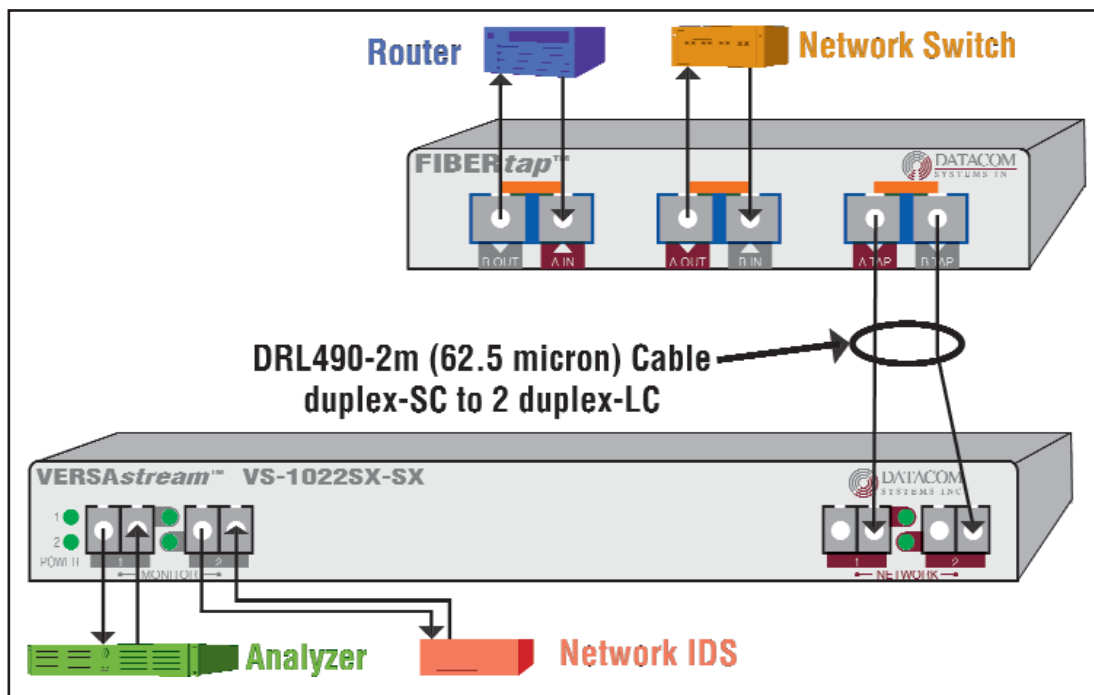

Figure 14 - VS-1022SX-SX Hardware Installation
**Full Duplex aggregated Application** — shown in **Figure 14**, focuses on monitoring and analysis of the full duplex aggregated input into one single stream of data using a FIBERTap™ in conjunction with the VS-1022SX-SX. This VS-1022SX-SX is similar to other VERSAstream™ SPAN series installations:
To connect the VERSAstream™ VS-1022SX-SX SPAN Series aggregator/regenerator, refer to **Figure 14** and follow these steps: